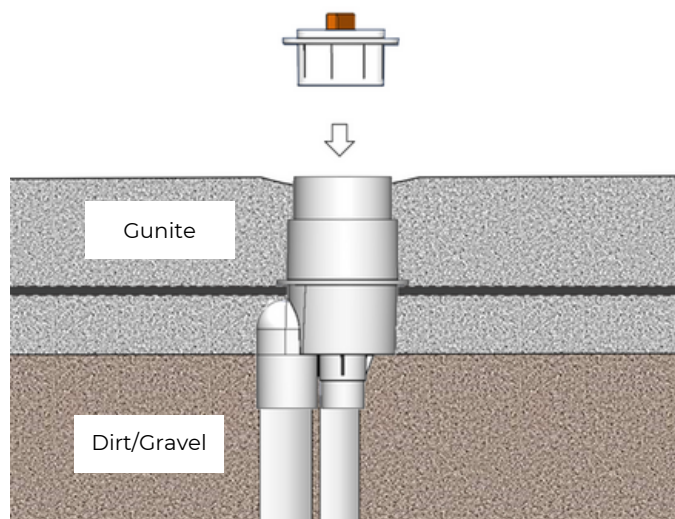

FIGURE 4
- 10 Using a Sawzall or other cutting tool, cut the 3" riser flush with the gunite level. See Figure 4.
Glue the 3" collar into the riser pipe. Ensure the orange plaster cap for the collar is threaded into place. See Figure 4.